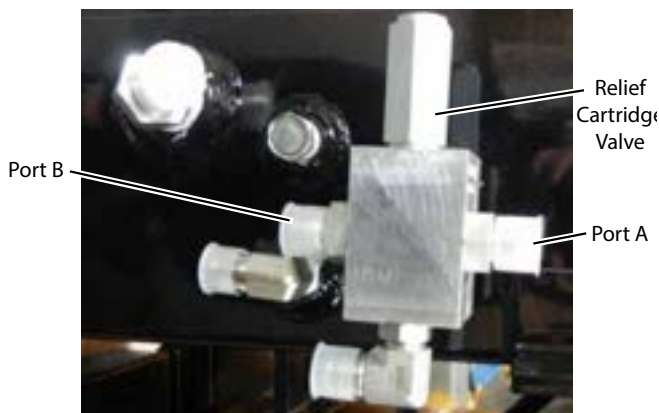

Figure 5-12. Track Tension Main Manifold
2. Connect a 2000 PSI gauge inline with either Port A or Port B on the track tension main manifold. **(Figure 5-12)**